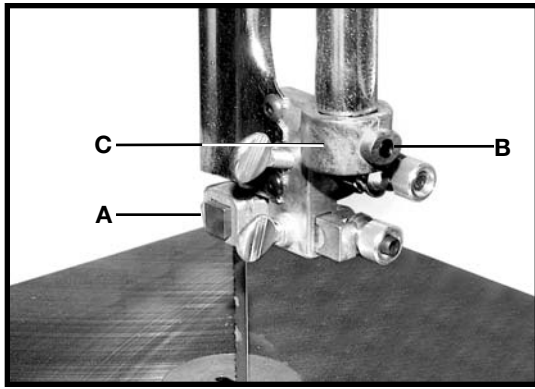
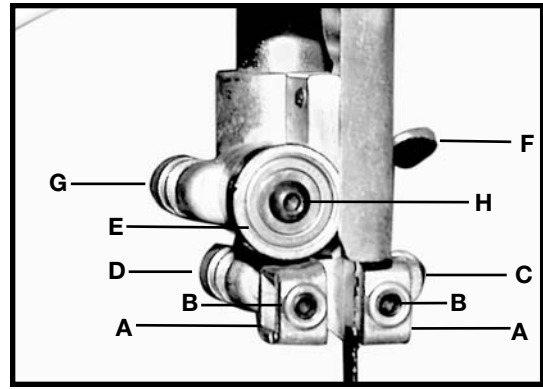
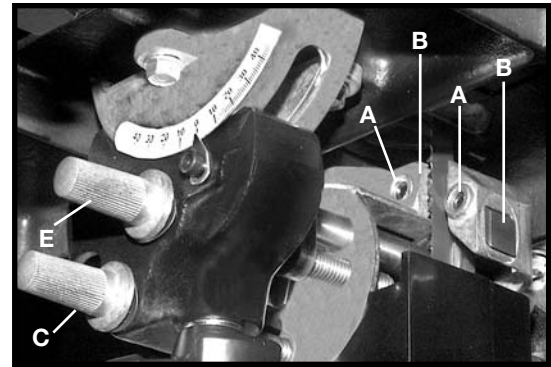

Fig. 27
Fig. 28
Fig. 29
3. Check the upper blade guide assembly. The blade guides (A) Fig. 27 should be parallel to the blade. To adjust, loosen the screw (B) and rotate the complete guide assembly (C). When the blade guides are parallel with the blade, tighten the screw (B).
4. Adjust the guides (A) Fig. 28 so that the front edge of the guides are just behind the "gullets" of the saw teeth. The complete guide block bracket can be moved in or out by loosening the thumb screw (C) and turning the knurled knob (D) Fig. 28. When the guides (A) are set properly, tighten thumb screw (C).
5. Two set screws (B) Fig. 28 hold the upper blade guides (A) in place. Loosen the set screws (B) to move the guides (A). Place them as close as possible to the side of the blade. (Be careful not to pinch the blade). Tighten the screws (B).
6. The upper blade support bearing (E) Fig. 28 prevents damage to the set in the saw teeth by keeping the blade from being pushed too far toward the back. The support bearing (E) should be set 1/64" behind the blade by loosening the thumb screw (F) and turning the knurled knob (G) to move the support bearing (E) in or out.
7. Adjust the blade support bearing (E) so that the back edge of the blade overlaps the outside diameter of the ball bearing by about 1/16". The bearing (E) is set on an eccentric. To change the position, remove the screw (H) and bearing (E) Fig. 28. Loosen the thumb screw (F), back out the knurled knob from the set screw. Remove the hex shaft from the hole, and rotate it to move the eccentric for the bearing.
8. When the blade guide wears to a point that it cannot be adjusted close to the blade, loosen screw (B) Fig. 28 and reverse the blade guides (A) Fig. 28.
2. Adjust the front edge of the guide blocks (B) Fig. 27 so that they are just behind the “gullets” of the saw teeth. Turn the knurled knob (C) Fig. 29 to make this adjustment. Check the support bearing (E) Fig. 28. It should not be touching the back of the blade.
3. Loosen the two screws (A) Fig. 29. Move the guides (B) as close as possible to the side of the blade, being careful not to pinch the blade. Tighten screws (A).
3. Turn the other knurled knob (E) to adjust the lower blade support bearing (D) Fig. 29 so that it is about 1/64" behind the back of the blade.